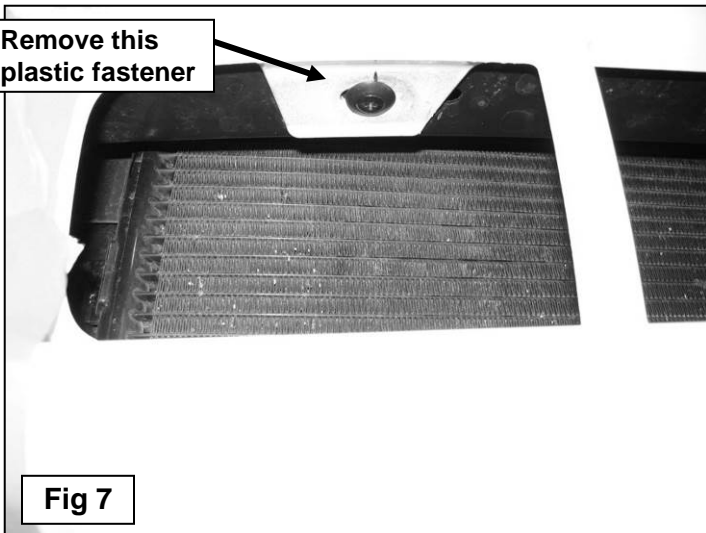

Fig 7
7. Move up to the passenger side of the grille opening. Locate and remove the fastener at the top-left hand corner of the grille opening, **(Figure 7)**. Insert (1) 8mm x 25mm Bolt Plate into and down through the factory hole left by the plastic fastener, **(Figure 8)**.